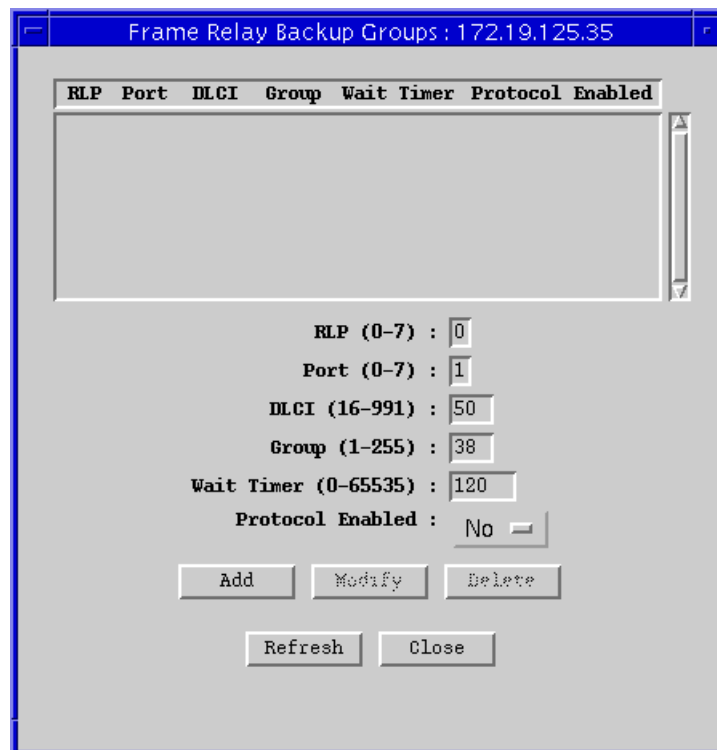

Figure 5-3. Frame Relay Backup Group
2. Drag down to **Frame Relay Backup Group**, and release. The Frame Relay Backup Group window, Figure 5-3, will appear.